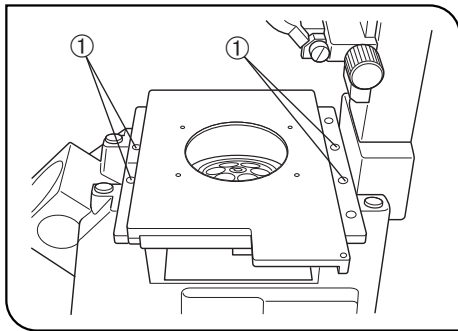

Fig. 83
(Figs. 83 to 85)
2. Insert the four provided Allen screws into the mounting holes ①. Tighten the screws using the provided Allen wrench. (Fig. 83)